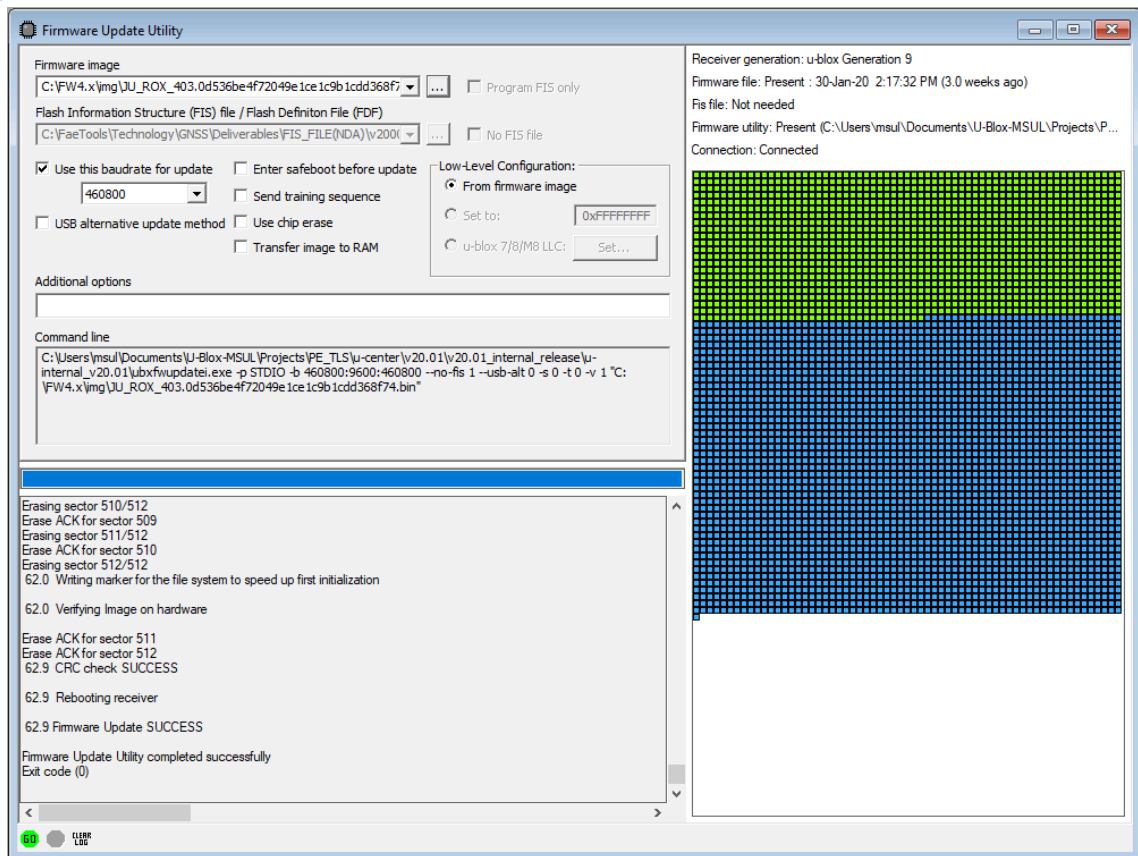

Figure 7: Firmware update tool
1. Select **Tools > Firmware Update....** The firmware update window will appear as shown in Figure 7.